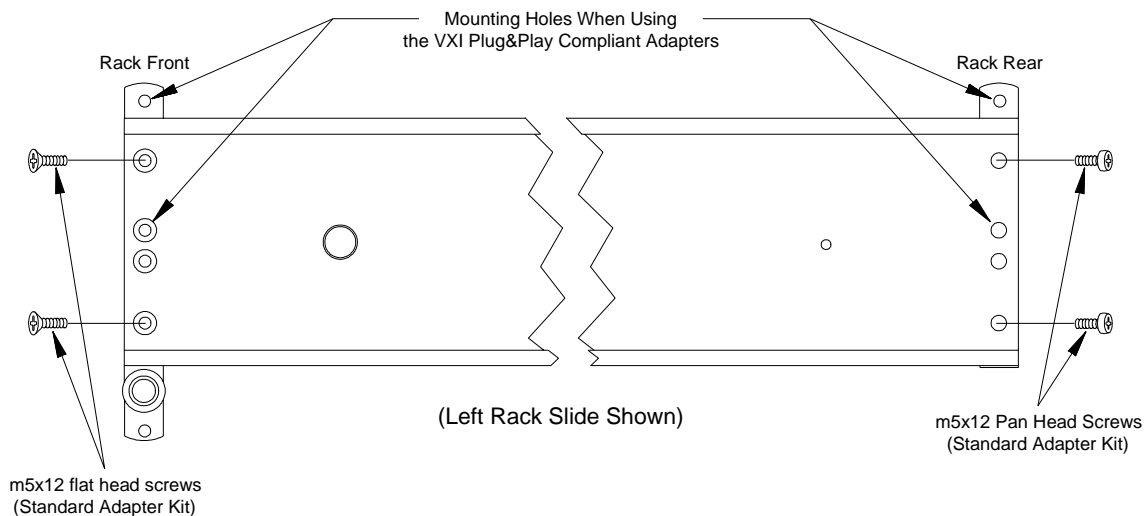

Figure 2-9. Installing the Rack Slide Stationary Sections.
6. Attach the stationary section to the rack's front inside rail through the channel nuts. Use two m5x12 flat head screws. Attach the stationary section to the rear inside rail using two m5x12 pan-head screws (Figure 2-9).